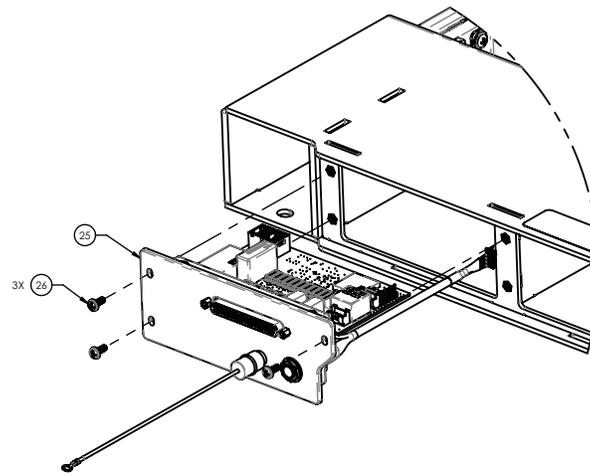

Figure 25 – PSI replacement
6. Using a #2 Phillips screwdriver, remove and save the three screws (26) that secure the PSI board assembly (25) to the litter frame and pull the PSI assembly outward (Figure 25).